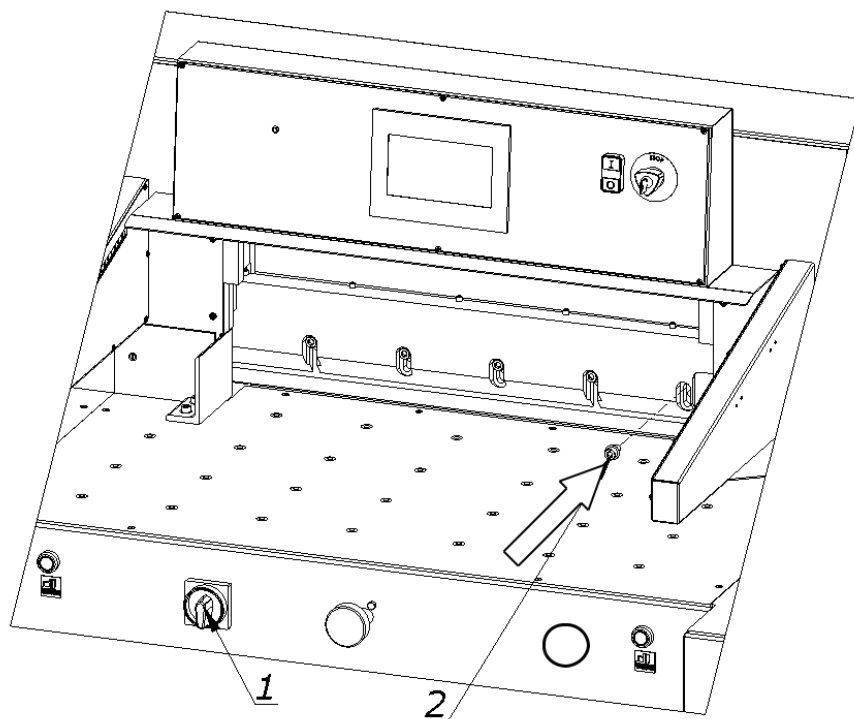

Figure 34
8.1.2.10. Switch off the power supply of the electrical system by turning the main switch knob 1 (fig. 34) to the "0" position
8.1.2.11. Screw in the bolt 2 lightly (fig.34).